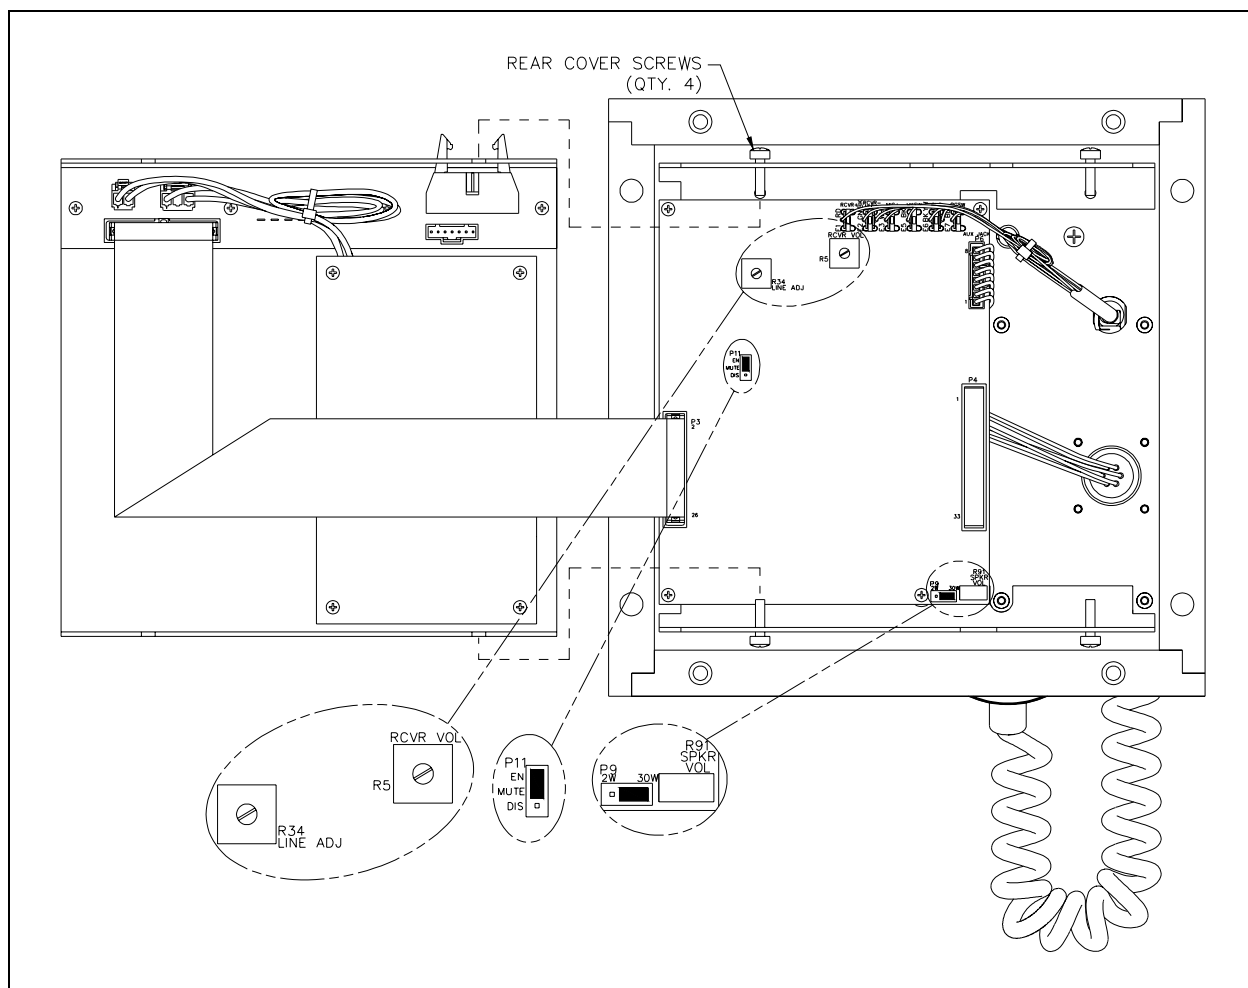

Figure 6. View of Open DC-Powered ICS Page/Party® Amplifier
1. Place the amplifier on a flat surface and loosen, but do not remove, the two sets of rear cover screws located on the top and bottom L-shaped slots. See Figure 6.
Refer to Figure 6 for locations. It is recommended to use a No. 10440-002 Maintenance Cable (sold separately) to perform the following adjustments.
Refer to Figure 6 for locations.